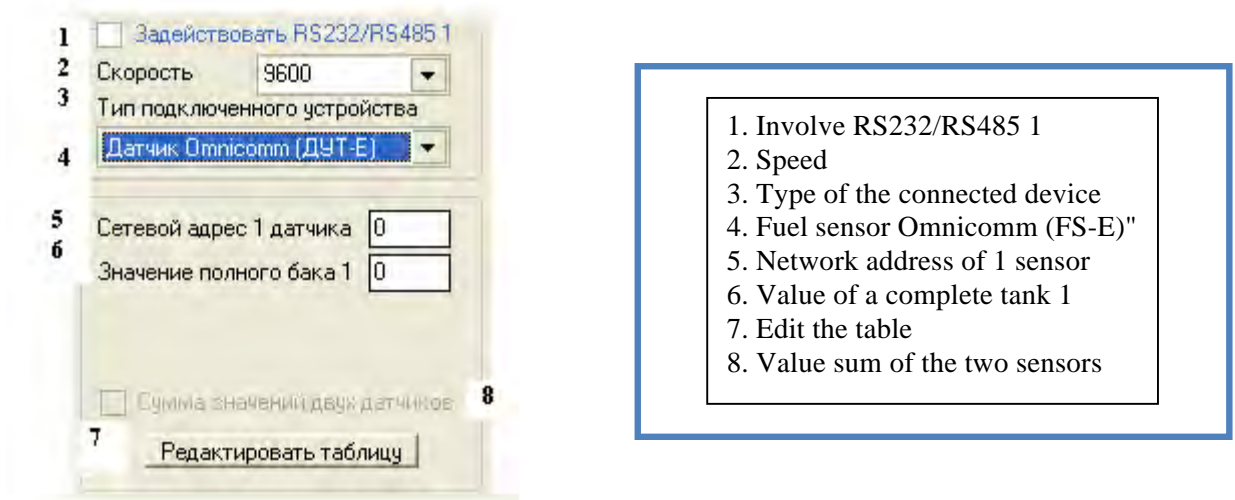

Figure 4.13
- "**Fuel sensor Omnicomm (FS-E)**" Digital fuel sensor is working to a protocol compatible with the protocol Omnicomm. To receive and process the data from the sensor, you must specify the address of the "**Network address of 1 sensor**" (Figure 4.13). The process of the sensor calibration and address assignment are specified in a manual the appropriate sensor.